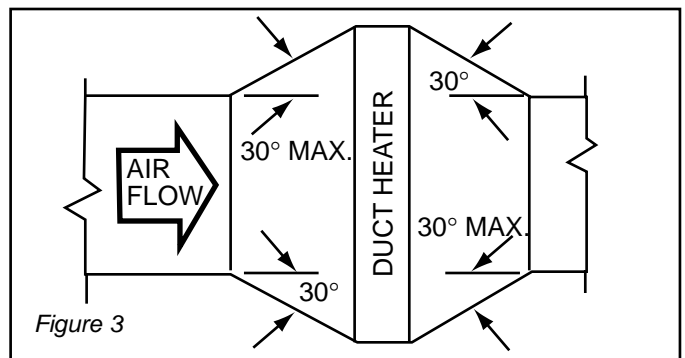

FIGURE 4
4. If the ductwork is of sufficient strength, the heater may be mounted directly in the opening using sheet metal screws. Most installations, however, will require either reinforcement of the duct or the construction of a framework to support the weight of the heater, Figure 4 and 5.